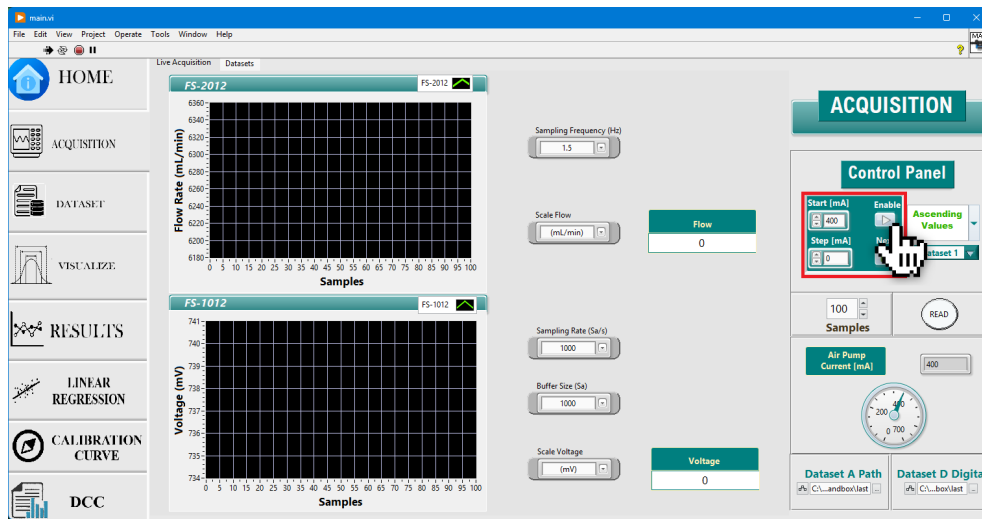

Figure 29: Setting the initial values for input ramp generation during at the beginning of calibration cycle
Step 3) Select the *ACQUISITION* tab on the front panel. The *Live Acquisition* page is selected by default in the inner tab selector. Locate the *Control Panel* on the front panel, illustrated in Figure 29. Locate the *Start [mA]* control. Select the desired initial value of the current output, in mA units. Press the *Enable* button, which starts the current ramp. Finally, locate the *Step [mA]* control and select the